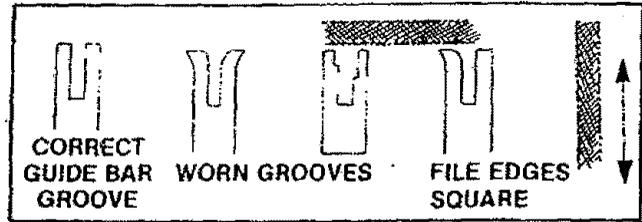

Figure 41
- Remove burrs by filing the side edges of the guide bar grooves square with a flat file. Figure 41.
- Restore square edges to an uneven rail top by filing with a flat file. Figure 41.